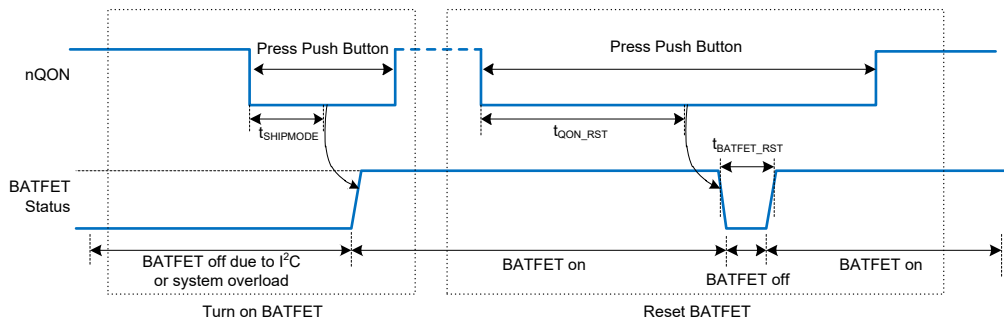

Figure 10. nQON Enable and Reset BATFET Timing
1. Enable BATFET: Applying an nQON logic high to low transition with longer than $t_{SHIPMODE}$ deglitch time (negative pulse) turns on BATFET to exit ship mode (Figure 10 left). HIZ is also enabled (EN_HIZ = 1) when exiting shipping mode. After exiting shipping mode, the host can disable HIZ (EN_HIZ = 0). Boost cannot be enabled (OTG_CONFIG = 1) until HIZ is disabled.
2. Reset BATFET: By applying a logic low for a duration of at least t_{QON_RST} to nQON pin while VBUS is not powered and BATFET is allowed to turn on (BATFET_DIS bit = 0), the BATFET turns off for t_{BATFET_RST} and then it is re-enabled resulting in a system power-on reset (Figure 10 right). This function can be disabled by clearing BATFET_RST_EN bit.